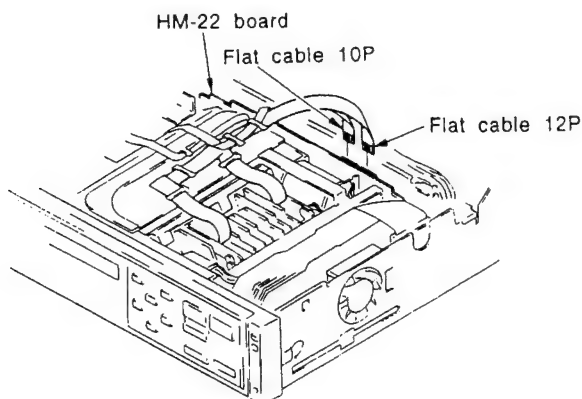

Fig. 1
1. Print two sheets of stair step signals (H) before head replacement (for comparison of each density).
2. Disconnect 10-pin and 12-pin flat cables from the HM board. (Fig. 1)